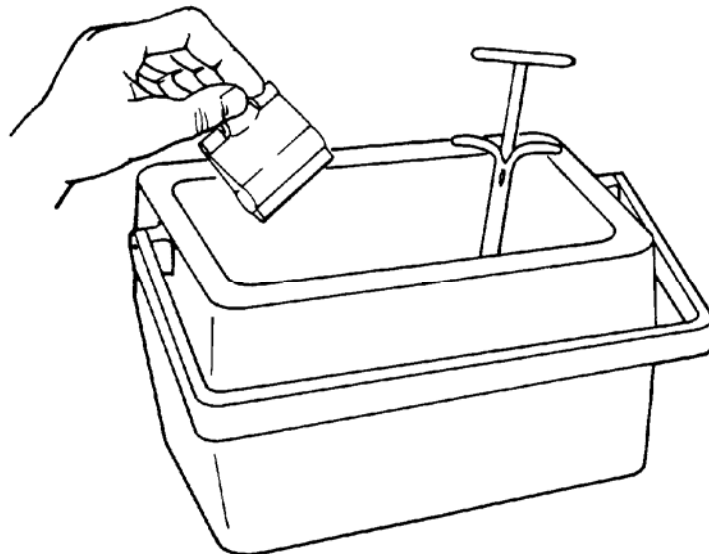

Figure 7. Prechill Tools
j. Cool the end of the installation tool and tube chiller in liquid nitrogen (Figure 7) until boiling stops.
k. Cool the end of the installation tool and tube chiller in liquid nitrogen until boiling stops (Figure 7).